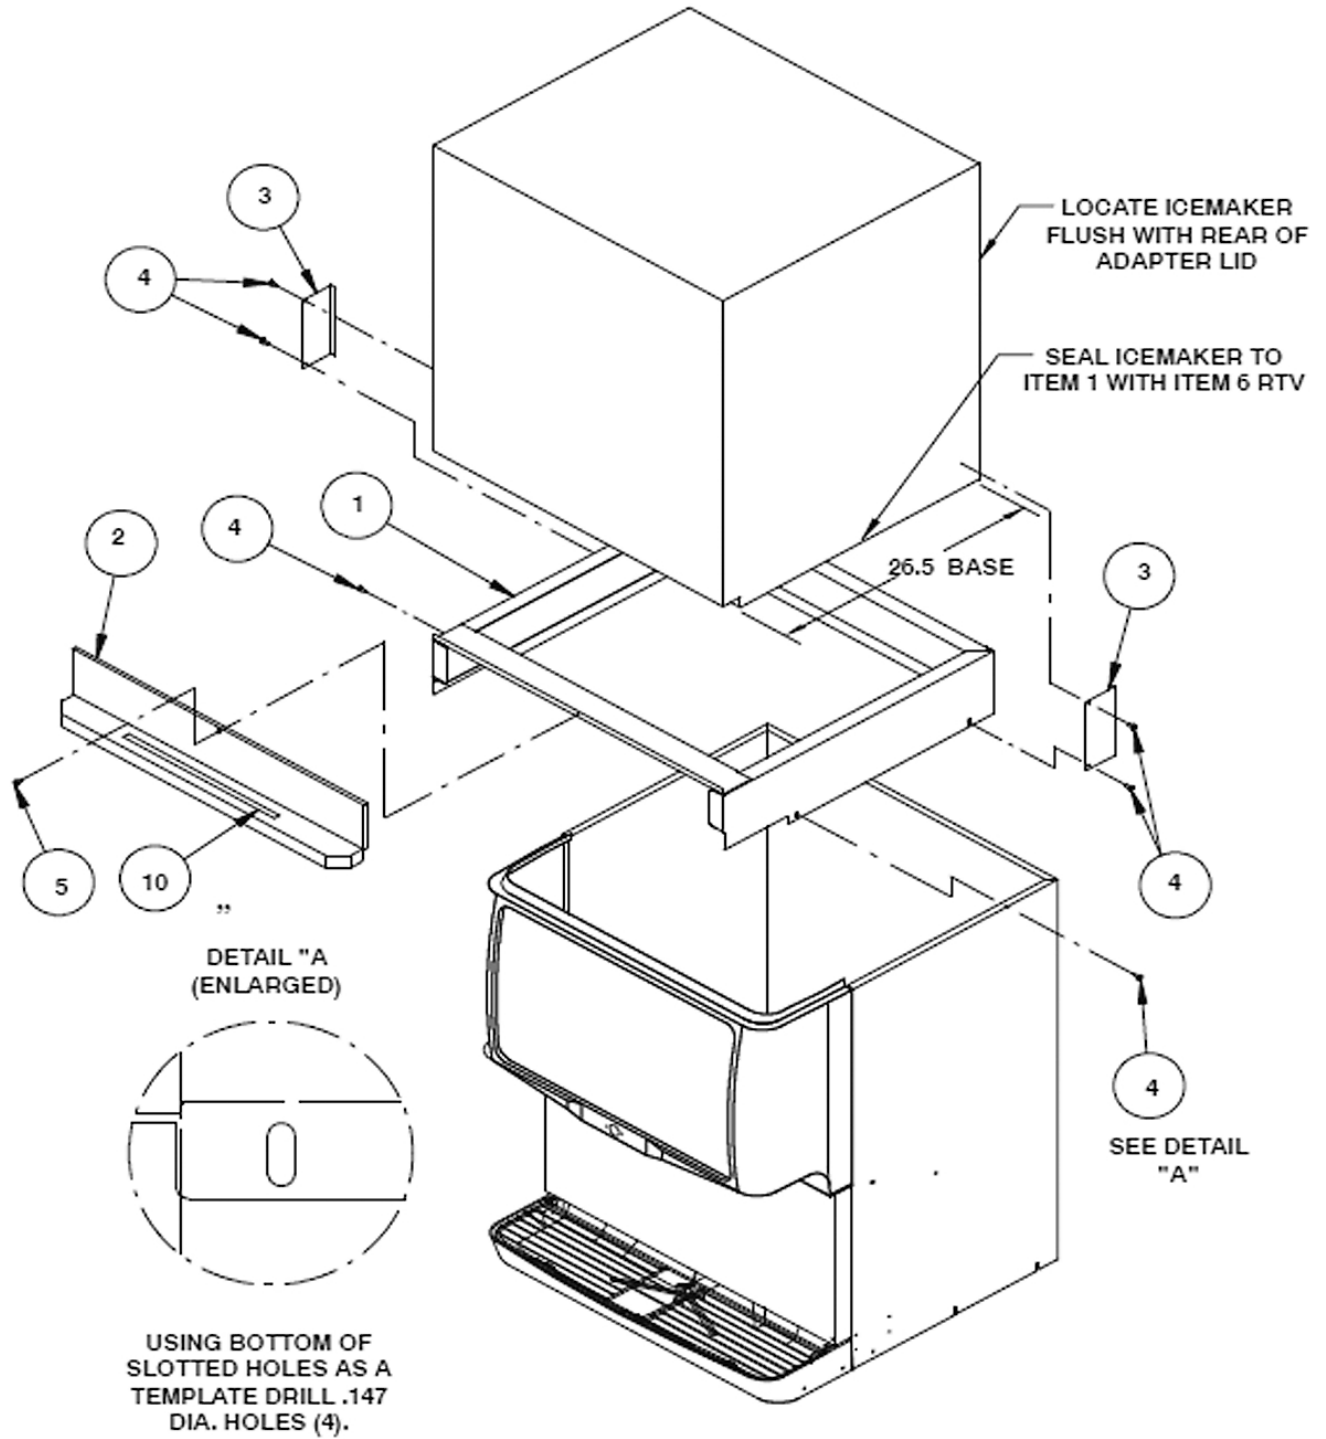

Figure 1.
- Position the ice maker adapter lid on the dispenser, flush with the rear of the cabinet as shown in Figure 1.
- Using the slotted holes in the adapter lid as a template, drill (4) 0.147" diameter holes (#26 drill) at the bottom of the slots into the dispenser cabinet (see Detail A, Figure 1). **Use extreme care not to drill into the ice storage bin.** Secure the lid to the dispenser with (4) #10 sheet metal screws.
- 4. Install the ice maker mounting brackets (2) as shown in Figure 1 by first removing the (2) rear screws from the dispenser lid. Use those screws to mount the brackets to the lid. Next using the brackets as template, drill 0.147" diameter holes into the ice maker cabinet. **Use extreme caution not to drill into any ice maker components (condenser, tubing, etc.).** Secure the brackets to the ice maker cabinet with the #10 sheet metal screws provided in the kit.